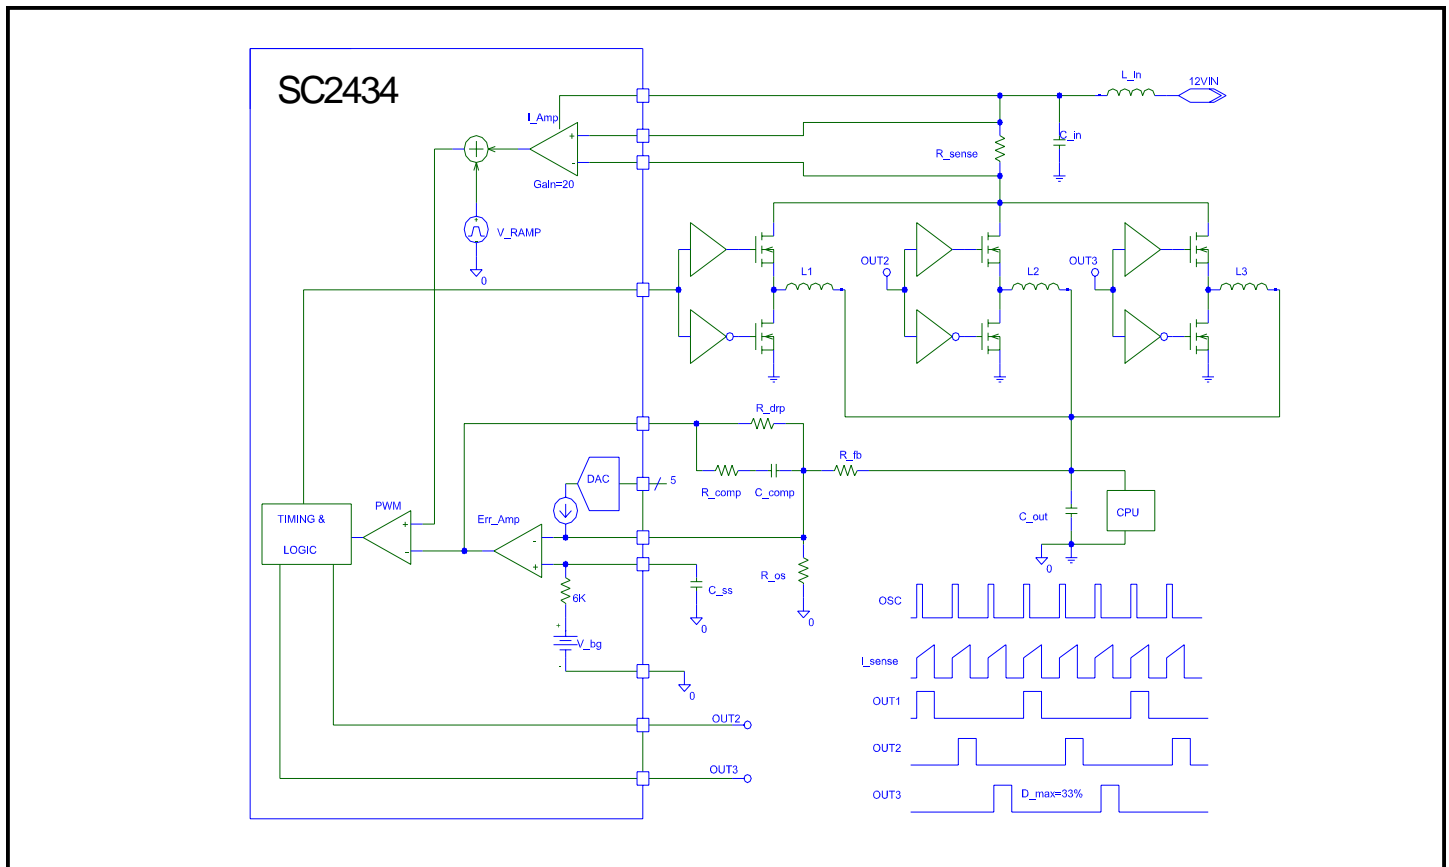

Fig.1 - The simplified voltage regulator based on SC2434.
The simplified voltage regulator (VR) based on SC2434 is depicted in Fig. 1. The key timing chart is also shown in the same picture. The 12V input power passes through the input filter establishing the input power rail. The current sensing resistor located at positive input rail monitors the top FET currents of all the phases. An internal differential amplifier amplifies the voltage across the current sensing resistor. The output of the current amplifier and an internally generated saw tooth ramp signal are added together to be the PWM carrier signal. This signal meets the output of the error amplifier at the pulse width modulator (PWM). The output of the PWM is then divided into three phases alternately to be the inputs of the synchronous drivers.
The VID circuitry reads the 5 bit digital command and converts it into a current flowing into the inverting input pin of the error amplifier. The output current of the DAC produces a voltage offset on the feedback resistor, R_{FB} (see Fig. 1), which changes the set point of the converter output voltage for different VID combinations.
Please refer to Fig. 1 and the application schematics in this data sheet for the discussion. The resistor from pin 10 to ground, R_{OSC} , programs the switching frequency. The resistor from pin 11 to ground, R_{DAC} , sets the DAC current step size. The resistors, R_{FB} , R_{OS} , and R_{DRP} set the DAC step size, the output voltage set point, and the droop, respectively.
Kirchoff's current law can be applied to the error amplifier's inverting input (see Fig. 1) to calculate R_{OS} , the DC level setting resistor. For given output voltage set point and VID setting, the resistance can be calculated by: